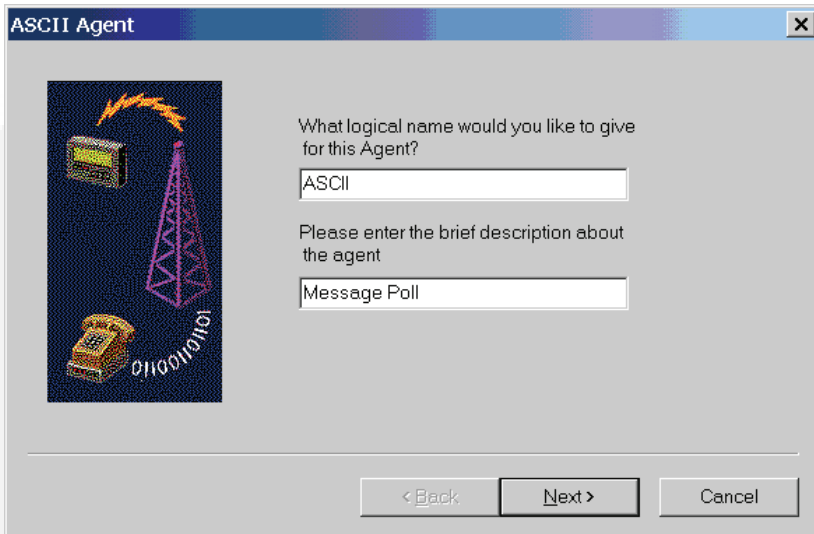

FIGURE 15-14. ASCII AGENT NAME
3. Enter a name for this agent “*ASCII*” and a description “*Message Poll*.” Then click on the **Next** button. Figure 15-14.